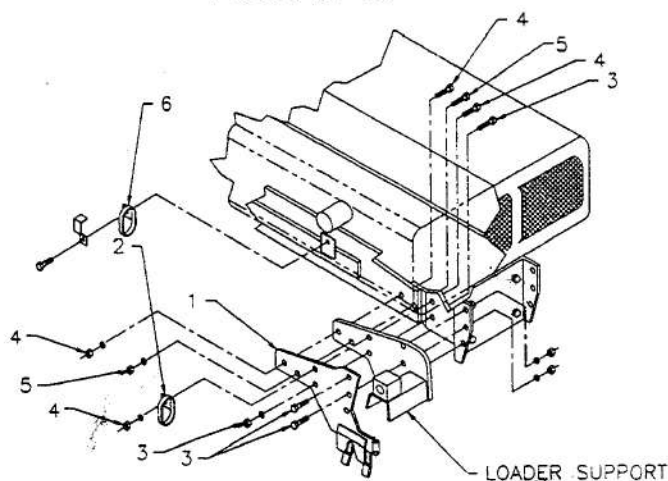
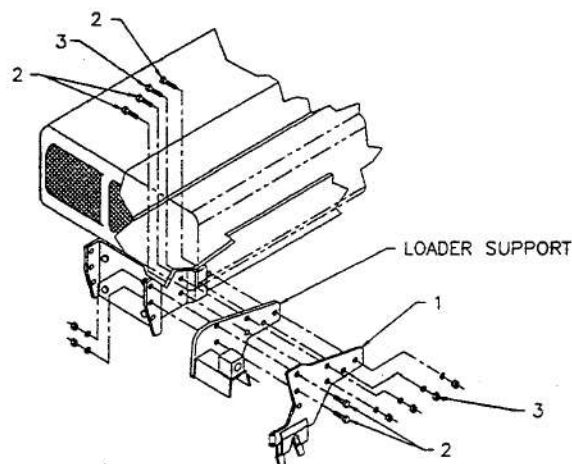

FIGURE 11
FIGURE 12
Install front right hand attaching plate (fig. 11, item 1) and hose supports (fig. 11, item 2) at indicated positions using three bolts M14 X 50 mm (fig. 11, item 3) with lockwashers and nuts, two bolt M14 X60 mm (fig. 11, item 4), with lockwashers and nuts, one bolt M16 X 60 mm (fig. 11, item 5) with lockwashers and nuts. Do not tighten yet. For hose support (fig.11, item 6) use bolt and hose support of the tractor, under the oil filter. Install left hand attaching plate (fig. 12, item 1) using five bolts M14 X 60 mm (fig. 12, item 2) with lockwashers and nuts, and one bolt M16 X 60 mm (fig. 12, item 3) with lockwashers and nuts. Do not tighten yet. Do not install a bolt in the bottom holes on the front plate.